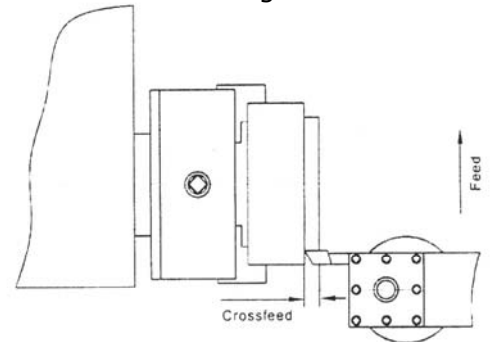

Fig.11
15.8 facing and recesses (Fig.11)